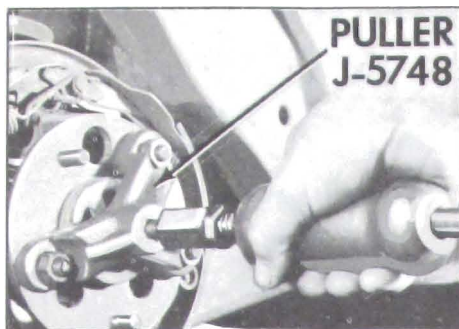

Fig. 6-5—Removing Rear Axle Shaft
4. Pull out axle shaft assemblies using Puller J-5748 and Adapter J-2619-4 with a slide hammer. See Figure 6-5.